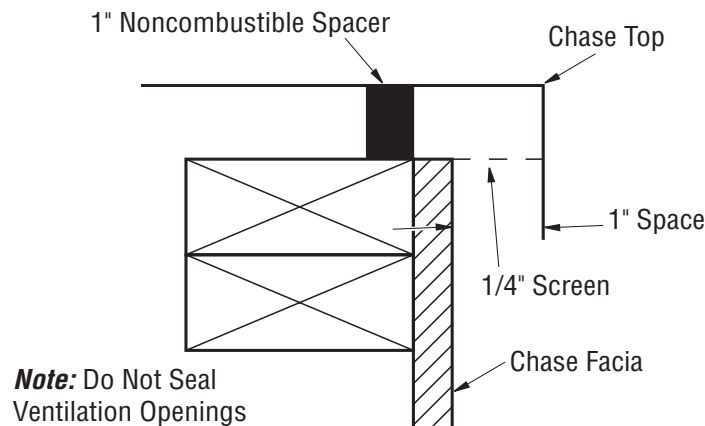

Figure 29 - Chase Top Flashing
4. Attach noncombustible spacers at each corner and place flashing over chase (see Figure 29). Secure flashing through sides with 8-penny nails or sheet rock screws.